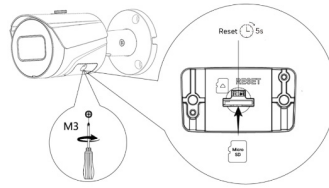

Figure 1
1. If you are using a microSD card with the camera, install it before continuing. Remove the panel on the underside of the camera and insert a microSD card into the microSD card slot (refer to Figure 1).